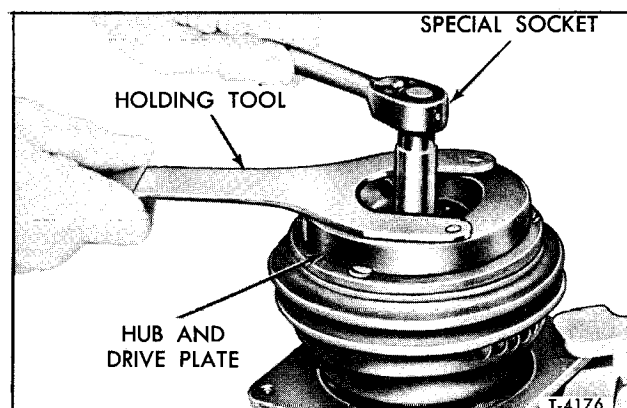

Figure 34—Removing Shaft Locknut
2. Using drive plate holding tool (J-9403) and socket J-9399, remove the lock nut from the shaft (figure 34). Discard lock nut.